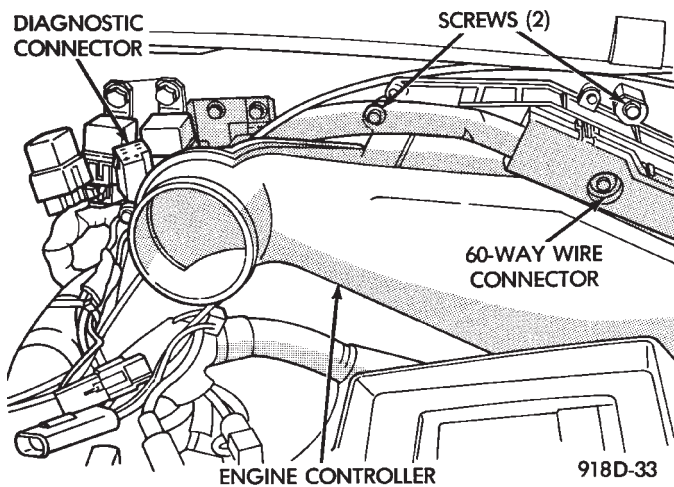

Fig. 15 Engine Controller
- (1) Remove air cleaner duct from engine controller.
- (2) Remove battery.
(3) Remove engine controller mounting screws (Fig. 15).
(4) Disconnect the 60-way wiring connector. Remove the engine controller.
(5) Reverse the above procedure for installation.